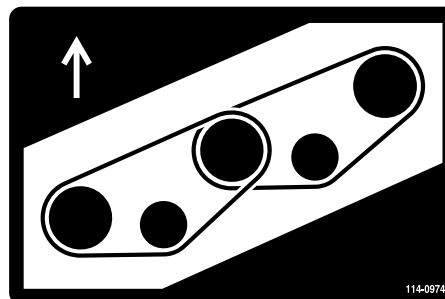
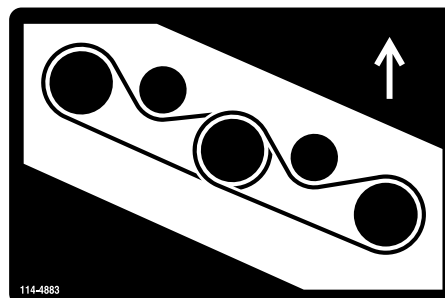

Figure 86
Figure 87
5. Route the new belt around the spindle pulleys and idler pulley assembly as shown in Figure 86 and Figure 87.